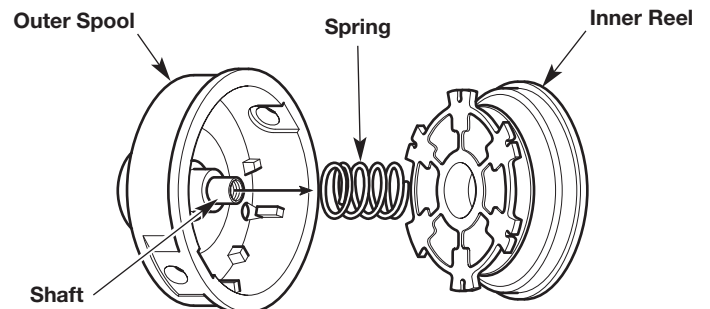

Fig. 19
3. Remove the inner reel from the outer spool (Fig. 19).
4. Remove the spring from the inner reel (Fig. 19).